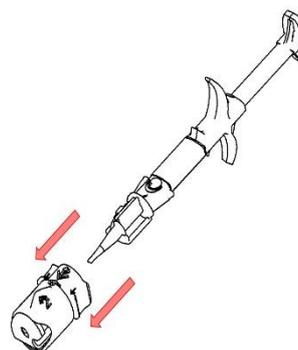

Fig. 3
6. Remove the adapter together with the rotatable ring as indicated by '4' (Fig. 3) by pulling it off and discard it.